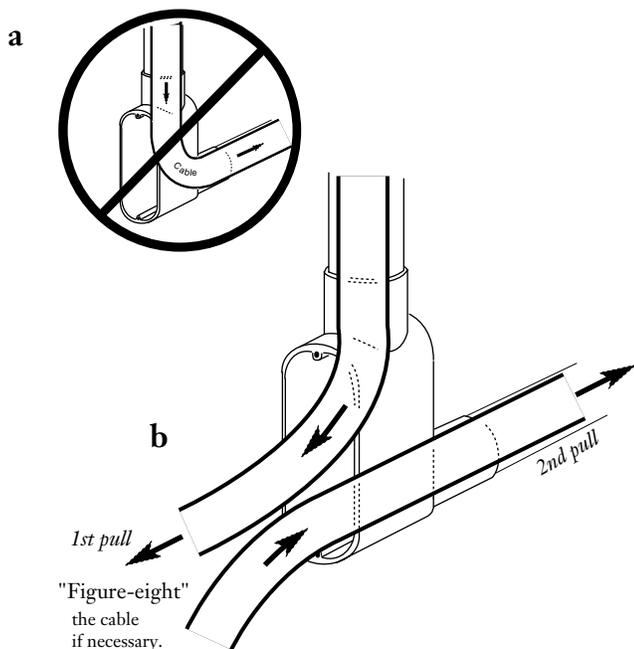

Figure 13
- Avoid the use of elbows, if possible, and use an elbow only if the cable's long-term bend radius can be maintained. Never pull cable "through" an elbow (Figure 13 a). Pull the cable out of the elbow, and “back-feed” it into the conduit exiting the elbow for a second pull (Figure 13 b).